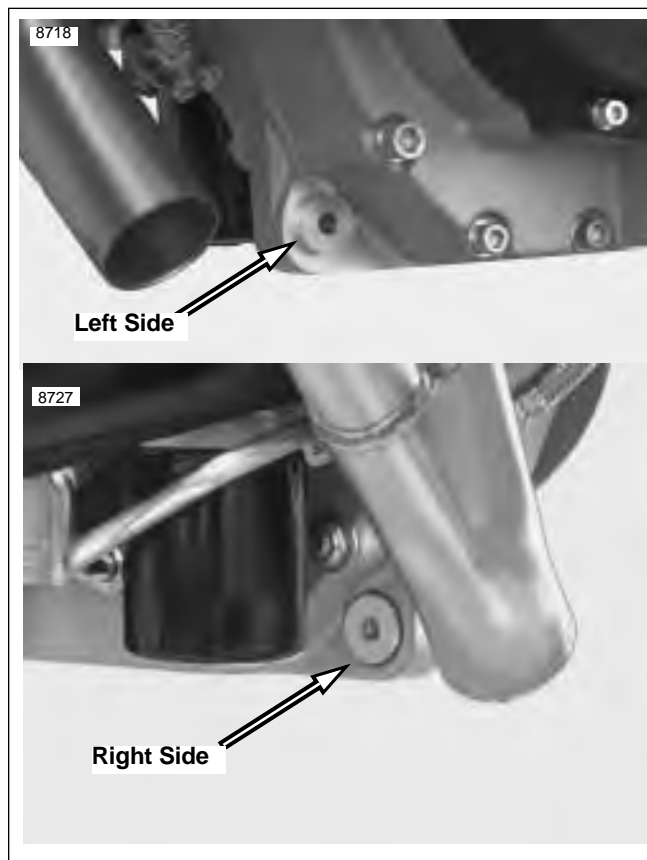

Figure 3-29. Front Exhaust Mount Bushings (2 piece)
- d. See Figure 3-29. Aluminum bushings from front exhaust mount.